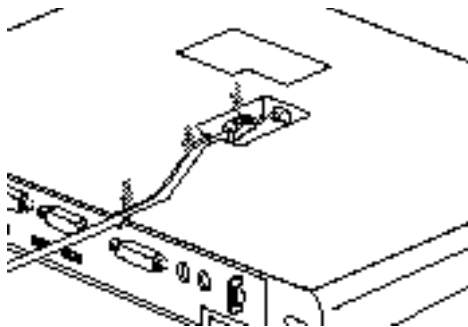

Figure 4-12 Installing a Fast Ethernet Line
3. Push the cable firmly into the slot in the bottom of the LAN Enhancement Unit so it is flush with the surface. (See Figure 4-12.)